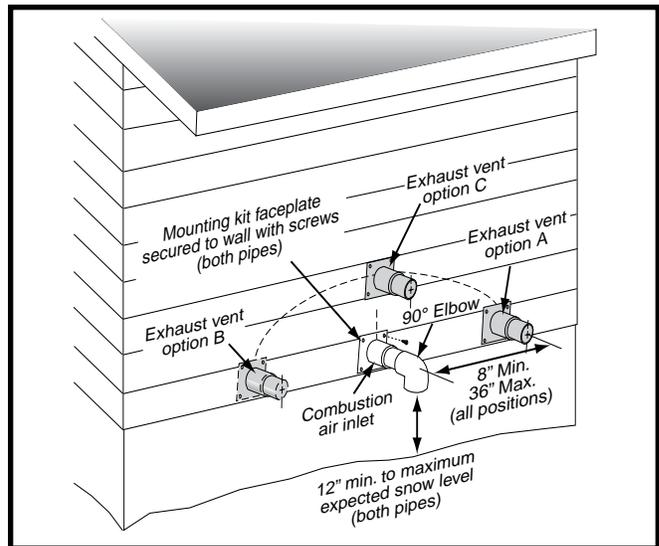
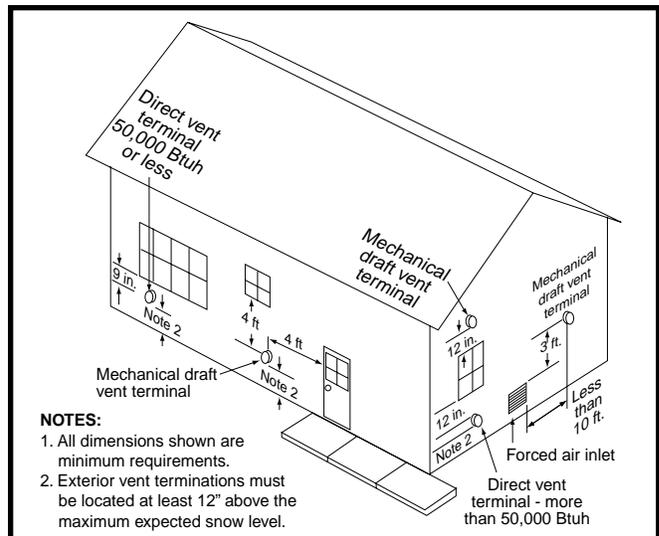
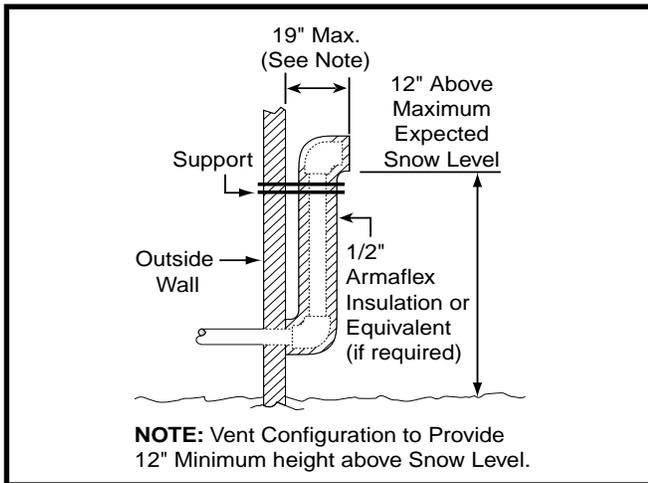
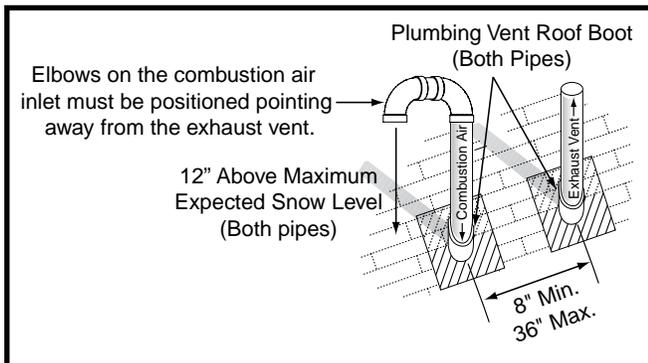

Figure 7. Inlet & Exhaust Pipe Clearances
Figure 8. Vent Locations
Figure 9. Alternate Horizontal Vent Installation
Figure 10. Vertical Vent Termination
- If a Direct Vent (2-pipe) system is used, the combustion air intake and the vent exhaust must be located in the same atmospheric pressure zone. This means both pipes must exit the building through the same portion of exterior wall or roof as shown in Figure 7, Figure 8, \(page 12\), Figure 9, \(page 13\), & Figure 10, \(page 13\).
- Vent and combustion air intake terminations shall be installed as depicted in Figure 7 & Figure 8 and in accordance with these instructions:
- All minimum clearances must be maintained to protect building materials from degradation by flue gases as shown in Figure 8.
- When the vent pipe must exit an exterior wall close to the grade or expected snow level where it is not possible to obtain clearances shown in Figure 7, a riser may be used as shown in Figure 9. Insulation is required to prevent freezing of this section of pipe. See Vent Freezing Protection Section.
Termination spacing requirements from the roof and from each other are shown in Figure 9. The roof penetration must be properly flashed and waterproofed with a plumbing roof boot or equivalent flashing. Vent and combustion air piping may be installed in an existing chimney which is not in use provided that:
- The termination clearances shown in Figure 10 are maintained.